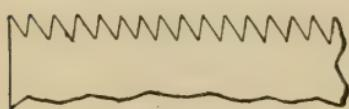

FIG. 81
"betwixt" a cross-cut and a rip-saw tooth. (See Fig. 81.) The set of a saw is important, and this is shown in
**Sharpening Tenon Saws.**—Sharpening tenon saws is practically the same as sharpening hand saws. It may happen, however, that some of the teeth will be much larger than others, this being due to the file not having been held at the same angle in sharpening each tooth. Fig. 81 shows the saw teeth improperly sharpened, the front of the large teeth inclining much